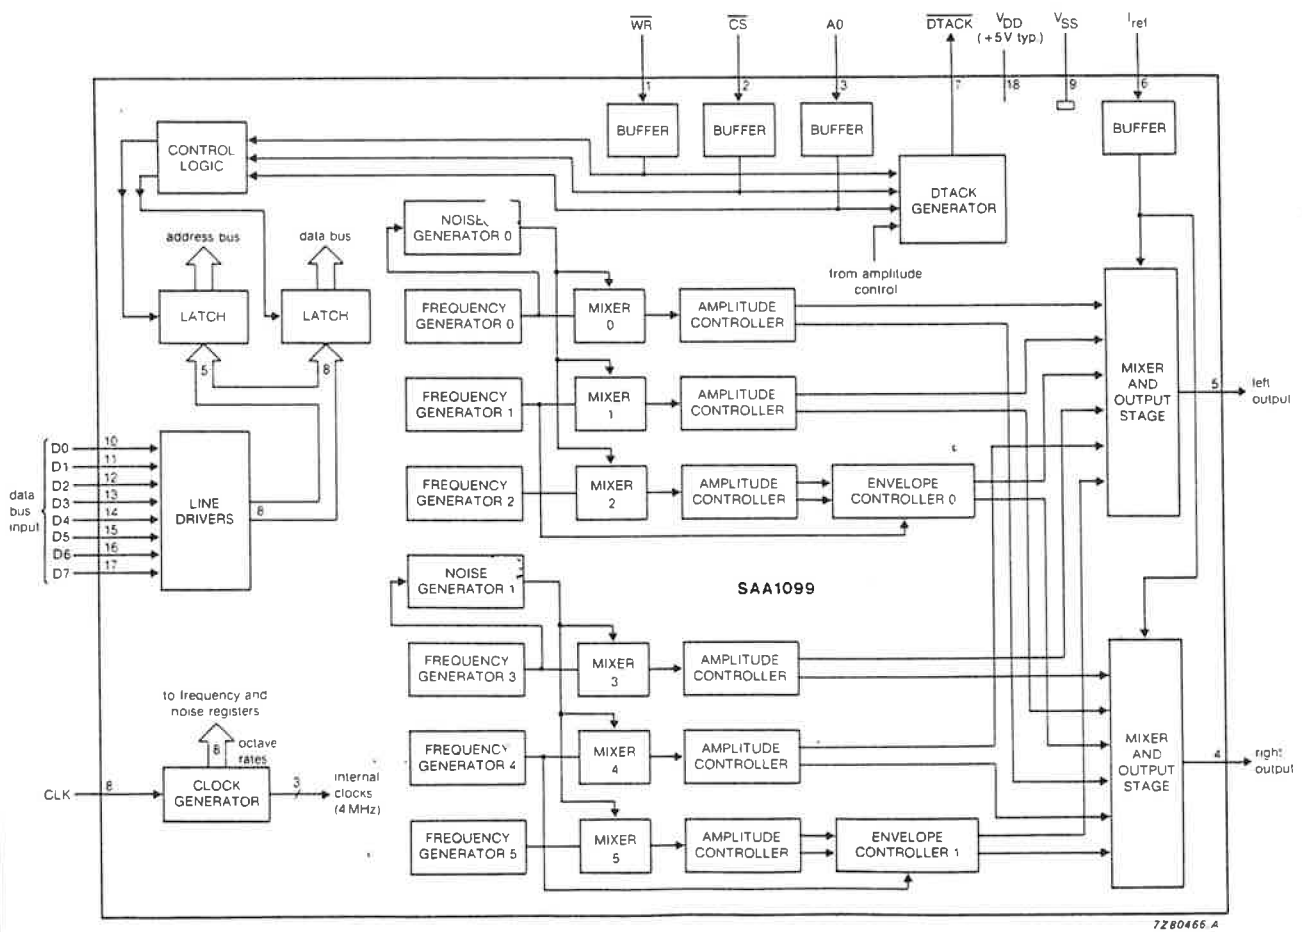

Fig.2 SAA1099 stereo sound generator.
The SAA1099, see Fig. 2, has six frequency generators each of which can generate 256 tones in each of eight octaves from 31 Hz to 7,81 kHz. Each generator can be switched on and off individually, making it possible to preselect a tone and to make it audible when required. To simplify the software, the frequency generators can be synchronized at start-up
- one of three pre-defined noises based on clock frequencies of 7,8 kHz, 15,6 kHz or 31,25 kHz. In this case, the output of noise generator 0 can be mixed with the outputs of frequency generators 0, 1 and 2, and the output of noise generator 1 can be mixed with the outputs of frequency generators 3, 4 and 5, see Fig. 2. For mixing, the amplitude of the tone is increased relative to that of the noise.